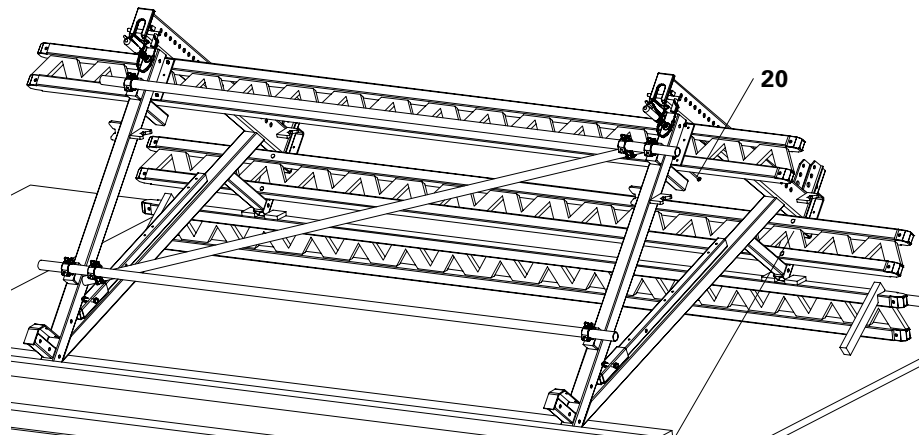

Fig. A1.08
1. Fix Lattice Girder GT 24 (2) by means of screw clamps.
2. Pre-drill Lattice Girder GT 24 (\varnothing 8) and fix to the mounting plates with 2x F. H. Bolts DIN 603 M8 x 100, MU (20).
- (Fig. A1.08)